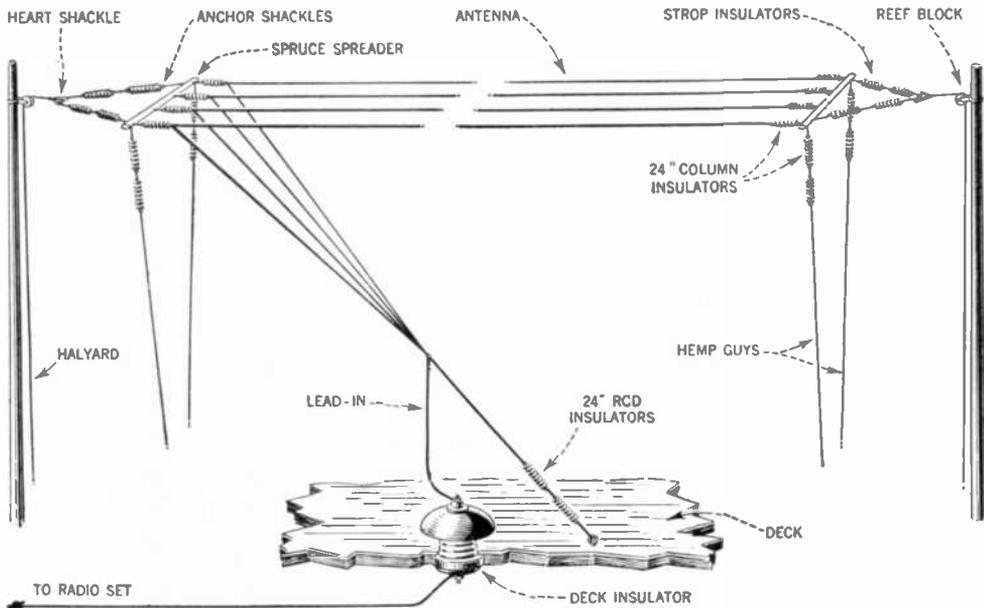

FIG. 42.—A detailed sketch of the flat-top inverted "L" antenna, lead-in and deck-insulator of the type commonly installed on shipboard.
*Answer.* (1) The inverted "L," or flat-top antenna, shown in Figures 42 and 43, consists usually of two to four equally spaced parallel wires secured at either end to insulators which are in turn fastened to spreaders. The spreaders are